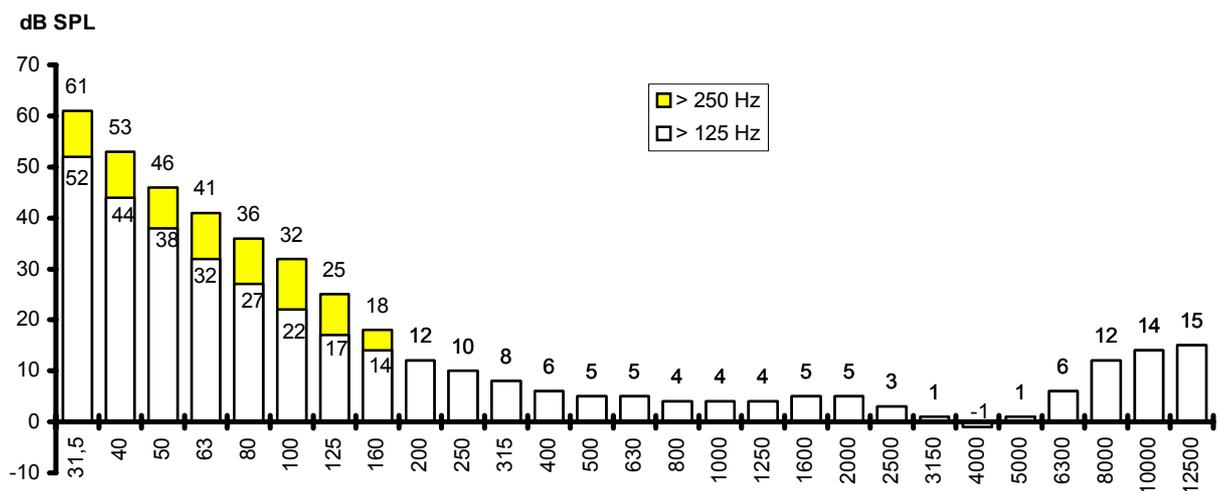

Fig.2 Maximum background noise levels for sound field audiometry
The ambient noise level in the test room is measured using 1/3 octave spectrum analyser or a sound level meter with similar functions. Fig. 2 shows the maximum permissible levels for ambient noise (ISO 8253-2) with either 125 Hz or 250 Hz as the lowest test frequency.
- The values in figure 2 are valid for test of hearing thresholds down to 0 dB HL, with a maximum uncertainty of ± 2 dB due to the ambient noise. If it can be accepted to have an uncertainty of ± 5 dB, the levels of figure 2 can be raised by 8 dB.